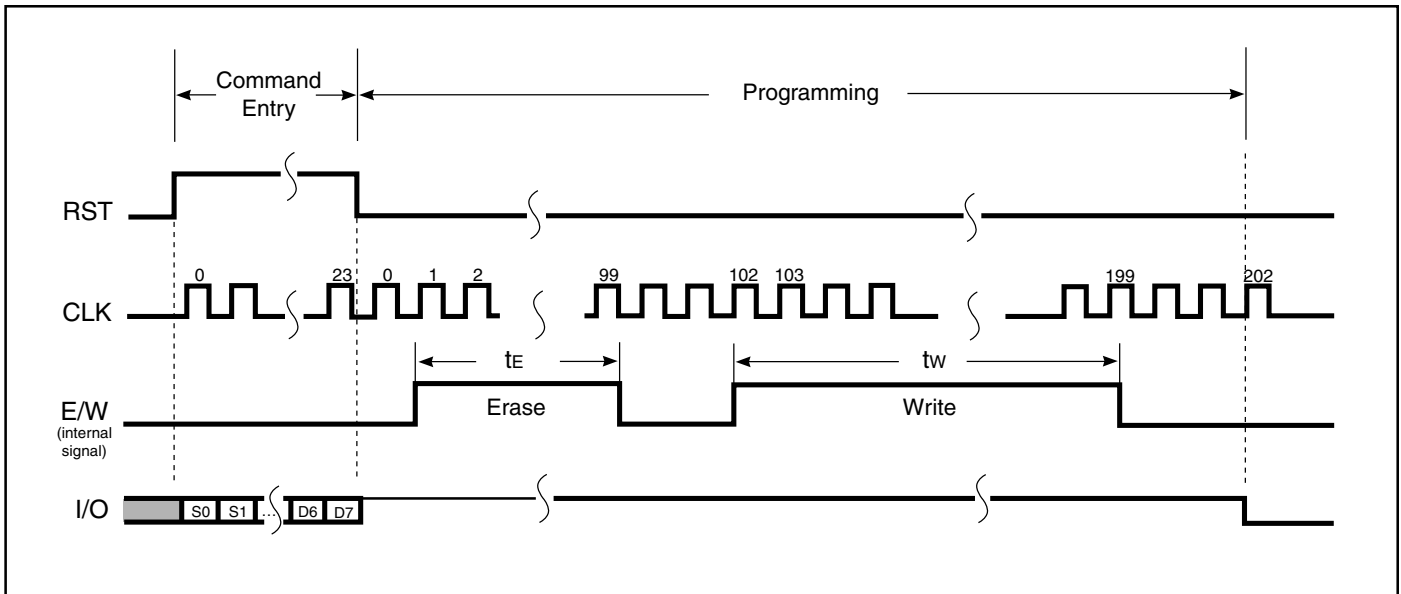

Figure 8. Programming Erase and Write
1. Erase and subsequent write if 203 clock pulses at $f < 20$ KHz are applied. (See Figure 8.)
The write/erase data byte with protect bit command operates similarly to the write/erase data bytewith protect bit command except that it also writes 0 to the corresponding protect bit. After the protect bit is set to 0 (write protection enabled), it cannot be changed again. (See Figures 8 and 9.)